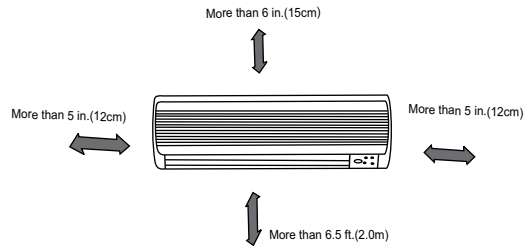

Fig.1
- Ensure that the proper clearance is maintained per Fig.1.